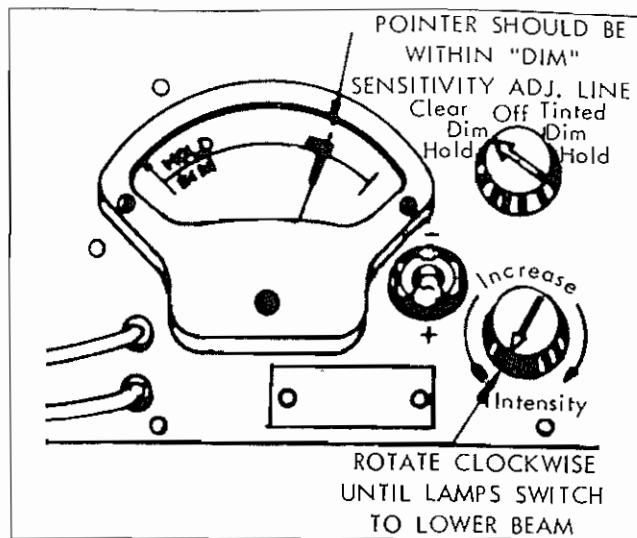

Figure 60
11. Slowly turn Intensity Rheostat counter-clockwise just to the point where headlamps switch to upper beam. The meter pointer should now read in the Green Hold Sensitivity Adjustment Bar on the meter scale, see figures 60 and 61. If not, proceed with adjustment procedure which follows:
5. Adjust tester Intensity Rheostat until meter pointer is at right-hand edge of Green Hold Sensitivity Bar, see figures 60 and 61.